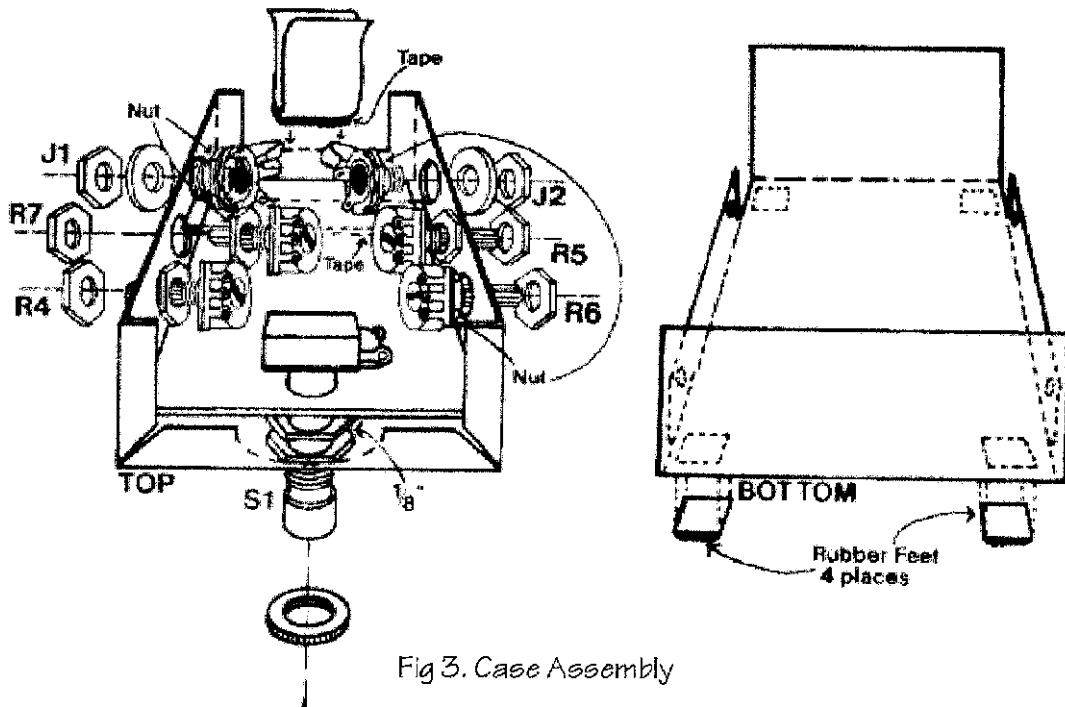

Fig 3. Case Assembly
- () Install the longest piece of tape on the inside TOP of the case as shown in figure 3.
- () Locate the "U" shaped battery holder and stick the small piece of tape to the bottom of it. Remove the paper from the other side of the tape and position it to the inside of the case top as shown in figure 3.
- () Install J1 (IN) by inserting the threaded shank of the jack into the appropriate case hole from the inside and threading the nut onto it from the outside. If a washer is included, install it with the nut. Tighten securely.